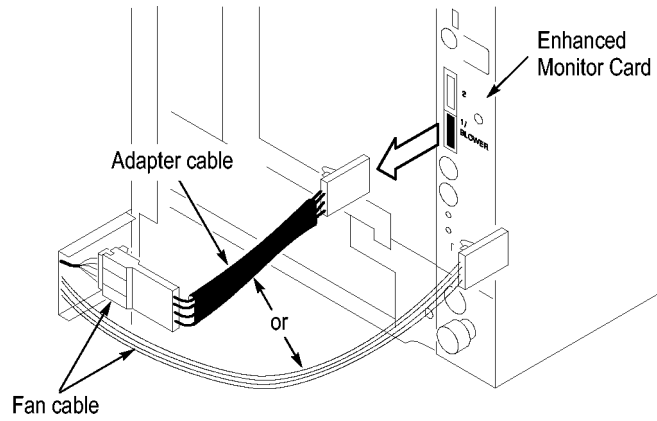

Figure 34: Disconnect the fan cable
1. Note whether there is a 3-inch adapter cable on the end of the fan cable. (See Figure 34.) The cable configuration will be used to determine the proper jumper settings in step 4.